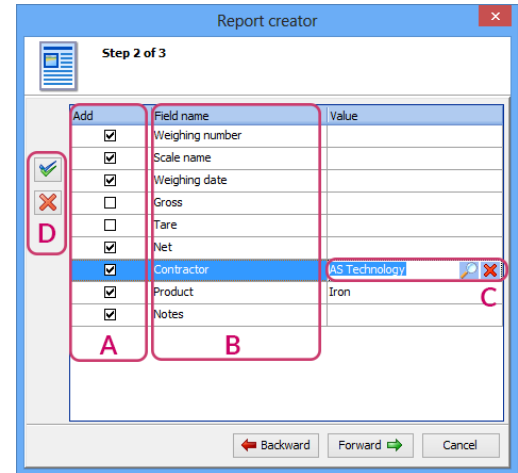

Fig. 15 Reports wizard window – step 2
6. In the table you must select, which fields will be visible in the report (if the field should be visible, then the „Add“ column should be checked") and if required, select for which values of attributes the report should be created. Values may only be given for fields of elements (for example contractor, product) and glossaries. If the field is of glossary or element type, then after clicking in the column "Values" the icon of a magnifying glass will be visible, thanks to which we can easily find the desired value. (Fig. 15)